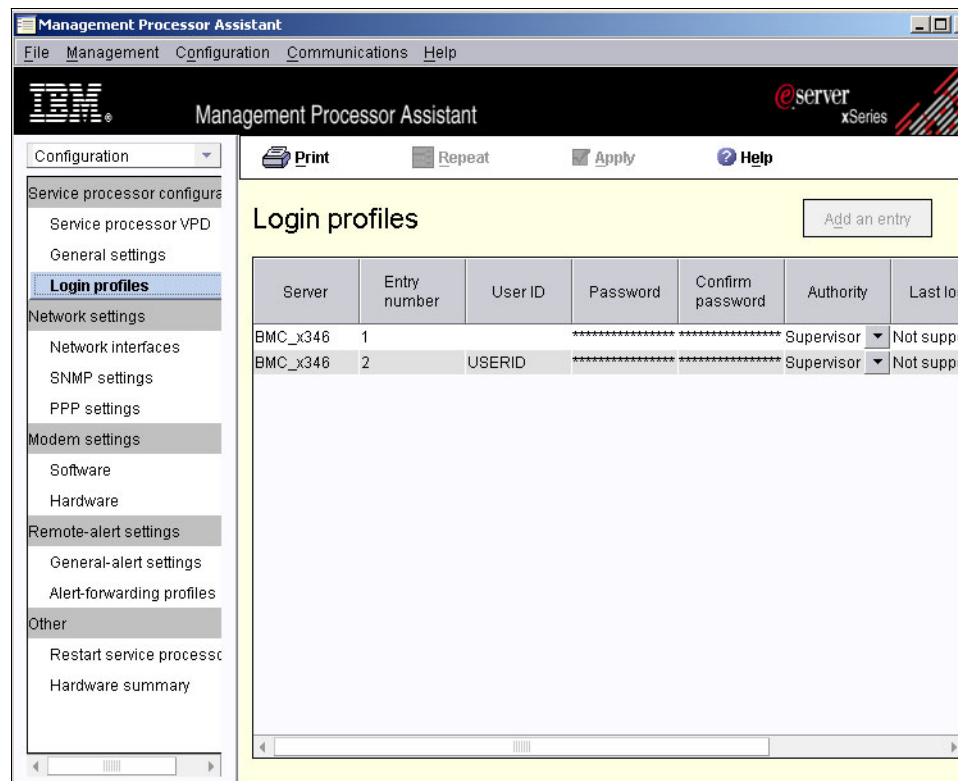

Figure 2-30 Management Processor Assistant Configuration window
2. Once MPA starts, click **Login profiles** from the left-hand menu (Figure 2-30).